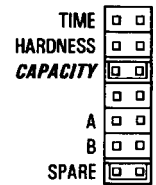
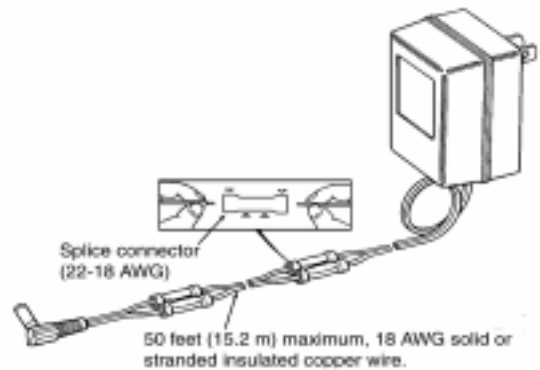

Figure 4
Figure 6
Move the upper jumper to the set of pins next to the word **CAPACITY** (Figure 4). Press the black **TIME SET** BUTTON until the correct capacity value is displayed. The capacity range is 1 to 99 kilograins. Refer to the salt setting chart (Figure 6).
2. Insert stripped wire into barrel of connector and crimp. For best results, crimp twice per wire as shown in Figure 6.